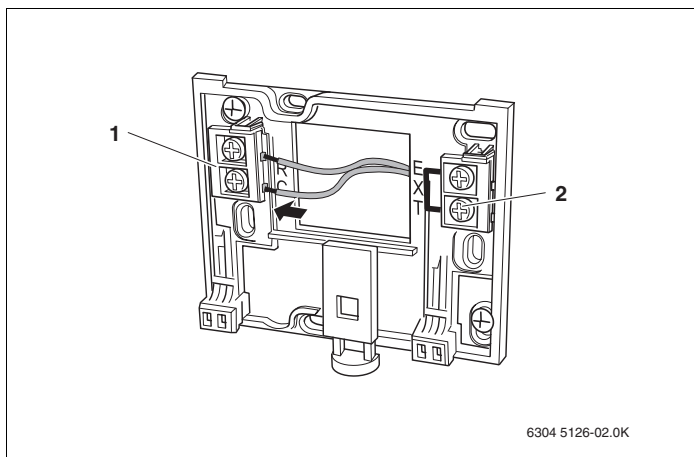

Fig. 4 Making electrical connections
- Connect the two-core bus cable from the Energy Management System (EMS) to the "RC" cable terminals (Fig. 4). There is no fixed polarity.
It is not possible to connect an external temperature sensor to the "EXT" (Fig. 4, **Item 2**) cable terminals. The "EXT" cable terminals have no function on the RC20 room controller.